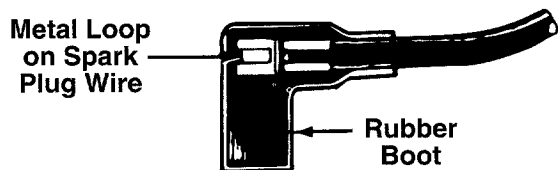

FIGURE 11.
1. Attach spark plug wire to spark plug. It unit is equipped with a rubber boot over the end of the spark plug wire, make certain the metal loop on the end of the spark plug wire (inside the rubber boot is fastened securely over the metal tip on the spark plug. See figure 11.